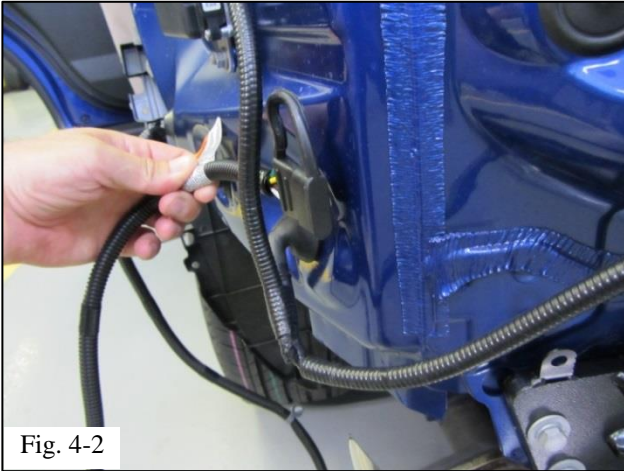

Fig. 4-2
- (b) Pass the trailer sub-wire harness inside the vehicle wire harness for the blind spot monitoring system LH (if equipped) (Fig. 4-2). For vehicles without the blind spot monitoring system, route the harness in the same manner.